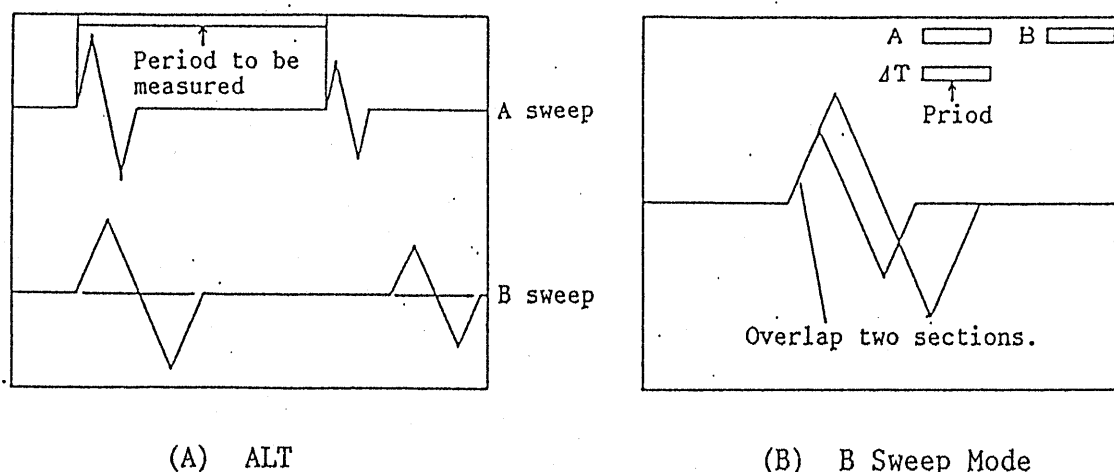

Figure 4-7. Time Interval (Period) Measurement with Delayed Sweep
- (1) Display the waveform on the CRT by adjusting the VOLTS/DIV, A TIME/DIV, and POSITION.
- (2) Set the HORIZ MODE ③⑥ to ALT. Operate sweep in the continuous delay mode by releasing from the B TRIG mode.
- (3) Set the CURSOR SW ③① to ΔT . An A-sweep waveform with two intensity modulated sections and a B-sweep waveform with sections representing the same intensity-modulated sections but with delayed timings will appear on the CRT. (See Figure 4-7 A.)
- (4) With the RREADOUT control ③③, move the two intensity-modulated sections to the positions between which the time interval is to be measure. It also is possible to move the two intensity-modulated sections in a tracking mode keeping the distance between them unaltered.
- (5) Pull out the A-B TIME/DIV ④⑥ and set the B sweep time for more fine viewing of the measuring points on the delayed B sweep. Now you may set the HORIZ MODE ③⑥ to the B sweep mode so that the B-sweep waveform alone is displayed. When in the B sweep mode, you may employ the $\times 10$ MAG function.
- (6) By adjusting the READOUT control ③③, overlap the two measuring points on the B sweep waveform. (See Figure 4-7 B.)
- (7) The time interval measured as above will be displayed on the CRT read-out.